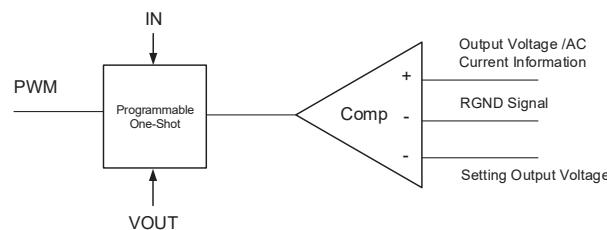

Figure 2. Simplified Control Schematic of AOZ23655RQI
The simplified control schematic is shown in Figure 2. The high-side switch on-time is determined solely by a one-shot whose pulse width is inversely proportional to input voltage (IN). The one-shot is triggered when the internal setting output voltage is higher than the combined information of output voltage and the AC current information of inductor and load line signal, which is processed and obtained through the sensed low-side MOSFET current once it turns-on. The added AC current information can help the stability of constant-on time control even with pure ceramic output capacitors, which have very low ESR. The AC current information has no DC offset, which does not cause offset with output load change, which is fundamentally different from other V^2 constant-on time control schemes.